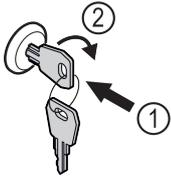

Fig. 161 Example illustration
- ▶ Insert key Fig. 161 (1).
- ▶ Turn key clockwise by 90° Fig. 161 (2).